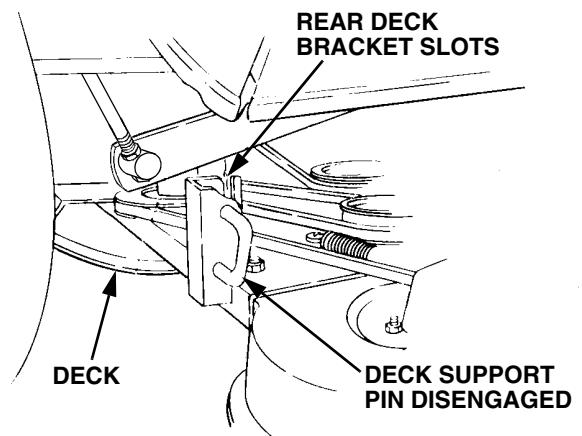

Figure 6-23
- If not already done, pull the deck support pins outward, turn downward and release so both spring-loaded pins are held in the disengaged position against the outer surface of the deck brackets (Refer to Figure 6-23).